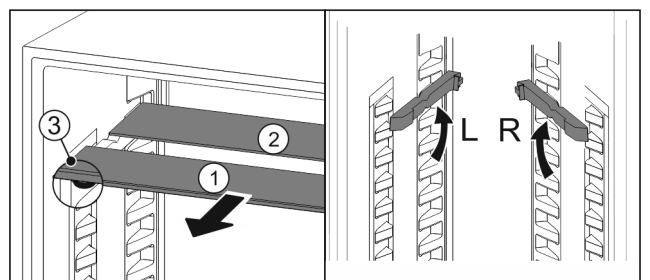

Fig. 157
- ▶ Pull the glass panels out *Fig. 157 (1)* from the front, one at a time.
- ▶ The glass panel *Fig. 157 (1)* and trim strip are at the front.
- ▶ The stops *Fig. 157 (3)* point down.